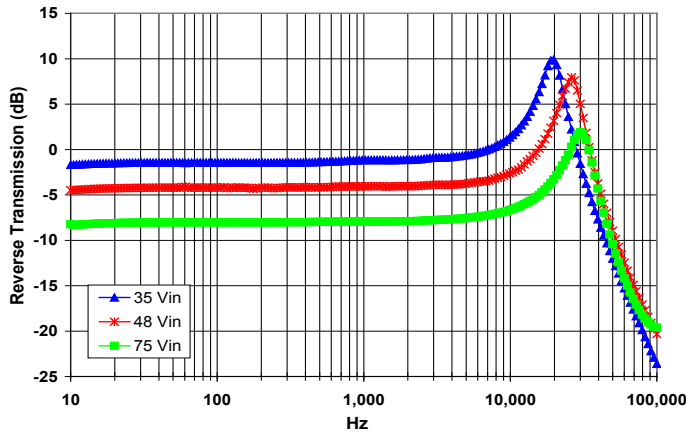

Figure 19: Magnitude of incremental reverse transmission ( $RT = i_{in}/i_{out}$ ) for minimum, nominal, and maximum input voltage at full rated power.
**Back-Drive Current Limit:** If there is negative output current of a magnitude larger than the Back-Drive Current Limit while Enabled specification\*, then a fast back-drive limit controller will increase the output voltage to maintain a constant output current. If this results in the output voltage exceeding the Output Over-Voltage Protection threshold\*, then the unit will shut down. The full I-V output characteristic can be seen in Figure 19.